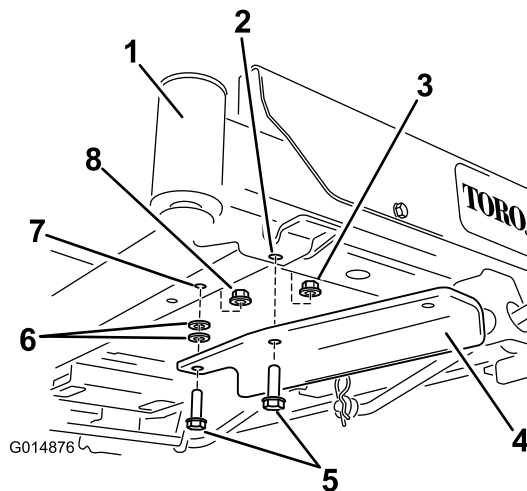

Figure 4
- For machines without a foot assist lift pedal: secure the bracket using two bolts (3/8 x 1-1/4 inches), two washers and two lock nuts (3/8 inch) (Figure 4). One locknut is from loose parts and the other is reused from earlier removal.